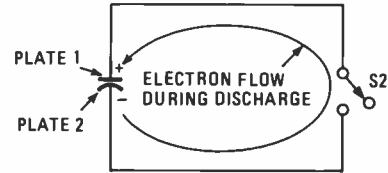

Fig. 5—When a capacitor discharges, the electron current flows from the negative plate to the positive plate.
8. (electric field) Now, assume that the external leads of the capacitor are shorted together when S2 is closed, as shown in Fig. 5. Immediately, all of the electrons on plate 2 rush through the external connection to plate 1 in an effort to neutralize the positive charge there. The excess of electrons on plate 2 cancels the charge on plate 1. Thus both plates are